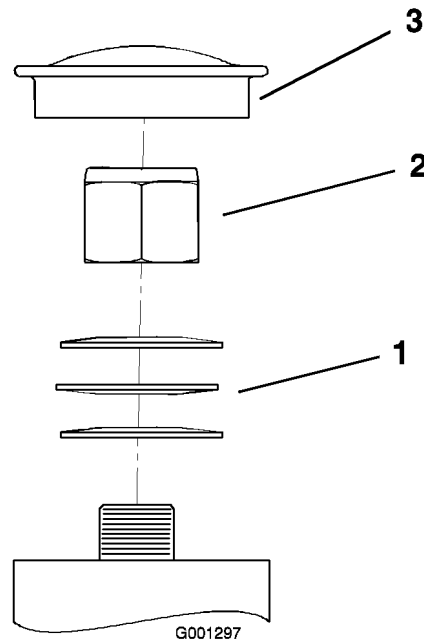

Figure 51
- Remove the dust cap from caster and tighten lock nut (Figure 51).
- Tighten the locknut until the spring washers are flat and then back off a 1/4 turn to properly set the pre-load on the bearings (Figure 51).
Important: Make sure spring washers are installed correctly as shown in Figure 51.
- Install the dust cap (Figure 51).